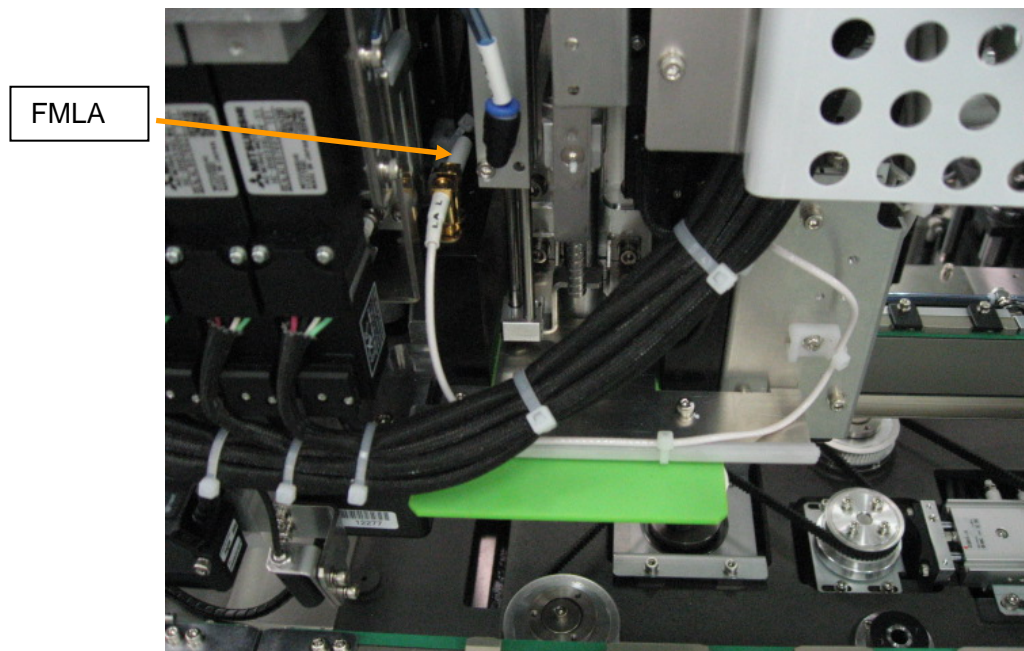

Figure 1-6-7-4
- 6) Run the 1394 ROBOT CABLE through the route shown in the Figure 1-6-7-5 and relay it at the location shown in the Figure 1-6-7-6.